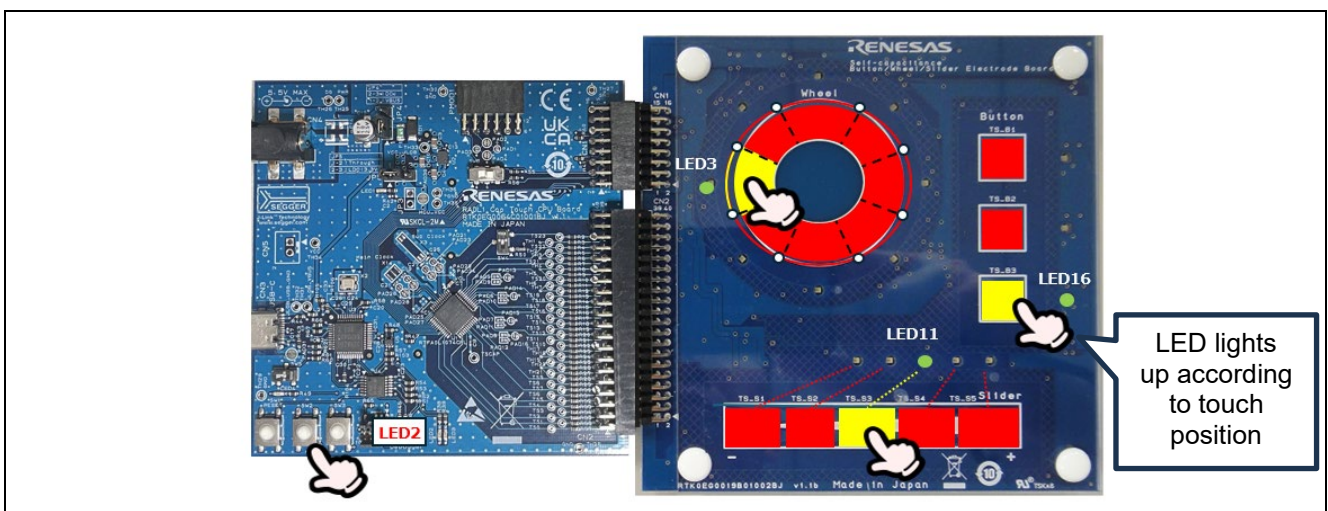

Figure 1-2 LED Control in Conjunction with Capacitive Touch Buttons, Slider, and Wheel Movements
2. The LEDs are controlled in conjunction with the operation of the three buttons, wheel, and slider on the touch electrode board. (See Figure 1-2). LED control is performed in conjunction with the push button on CPU board. Pressing SW2, LED 2 lights up. Pressing SW3, LED3 lights up. (See Figure 1-2)